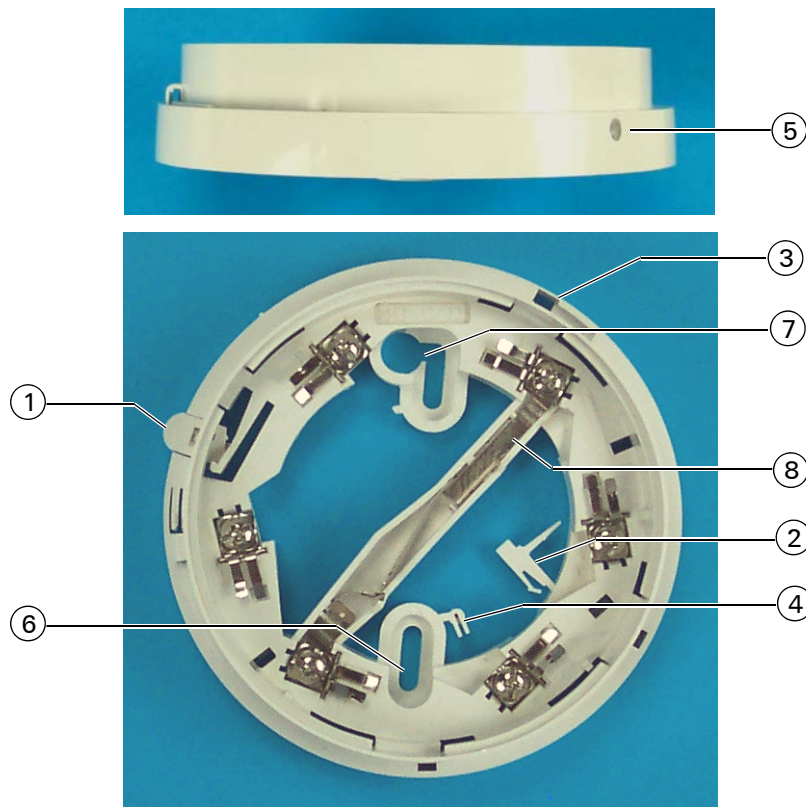
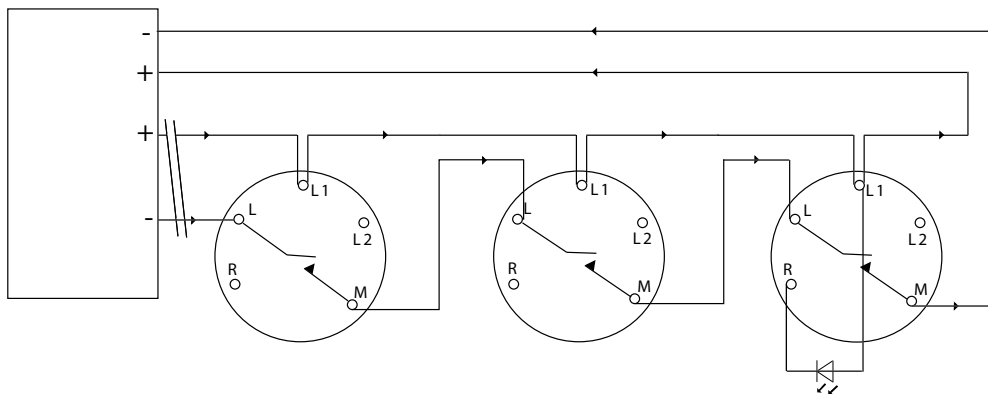

Fig. 1: 4B-C 4" base
Fig. 7: Typical implementation wiring diagram – 4B-C and 4B-EN Continuity Bases
Figure 1 shows a typical base in the series (the 4B-C). The numbered items are explained further throughout this guide.
| 4B-C  | Continuity base.For use with detectors that normally provide the continuity of the loop. On removing the detector a spring loaded contact closes to maintain loop continuity. The contact is item 8 in Figure 1.  | Use with 850 series detectors.               | Figure 7 on page 5     |
| 4B-EN | This is identical to the 4B-C, but approved for use in hazardous areas.   | Use with 850 Type Ex 'n' approved detectors. | Figure 7 on page 5     |
- 1 Snap the pin free of the moulding (see Item 2 in Figure 1).
- 2 Depress and hold in the Temporary Park Plunger (see item 1 in Figure 1).
- 1 Snap the plug free of the moulding (see Item 4 in Figure 1).